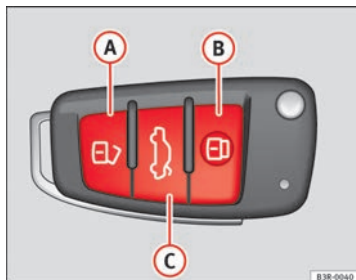

Fig. 77 Remote control key: Control buttons
- Press button **(A)**  fig. 77 for about 1 second.